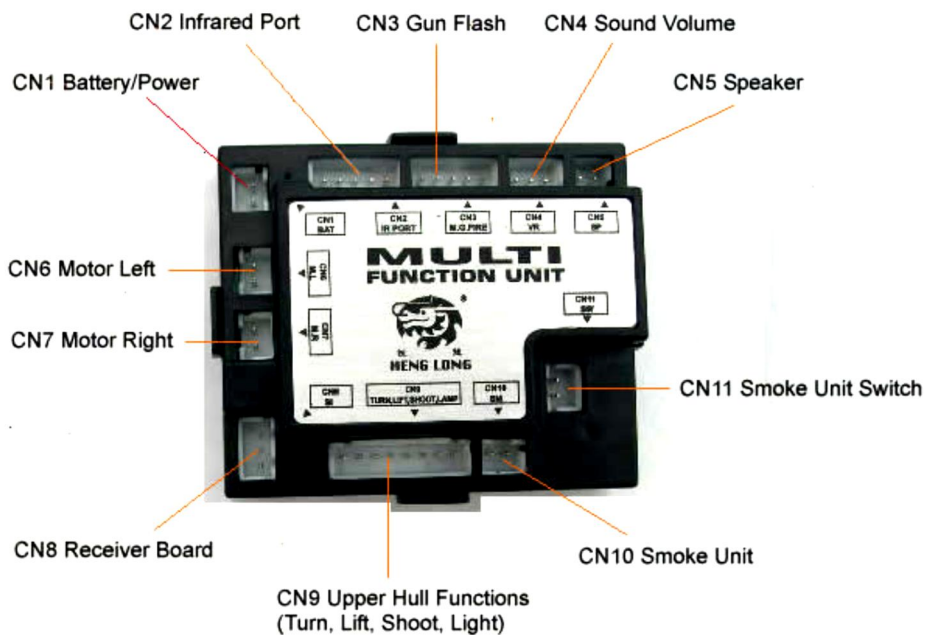

Fig. 3a - RX18 connectors layout
- Fig. 3a/3b RX18, Taigen MFU connector layout